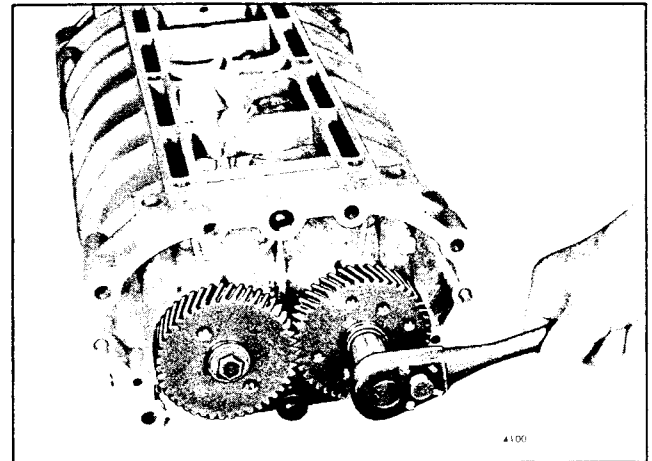

Fig. 17 - Installing Blower Rotor Gears
- g. Place the rotor gear pilots (43) on two 3/8" -24 x 2-3/4" bolts, then thread a bolt into the end of each rotor shaft. Place a clean shop towel between the rotors and one between the rotor and the housing (Fig. 17) to prevent the gears from turning. Then draw the gears approximately half-way on the rotor shafts.
- k. Thread the hex head bolt in the left-hand helix rotor shaft and the twelve point head bolt in the right-hand helix rotor shaft and draw the rotor gears into position tight against the shims and the bearing inner races as shown in Fig. 17. Tighten the bolts to 50-55 lb-ft torque.